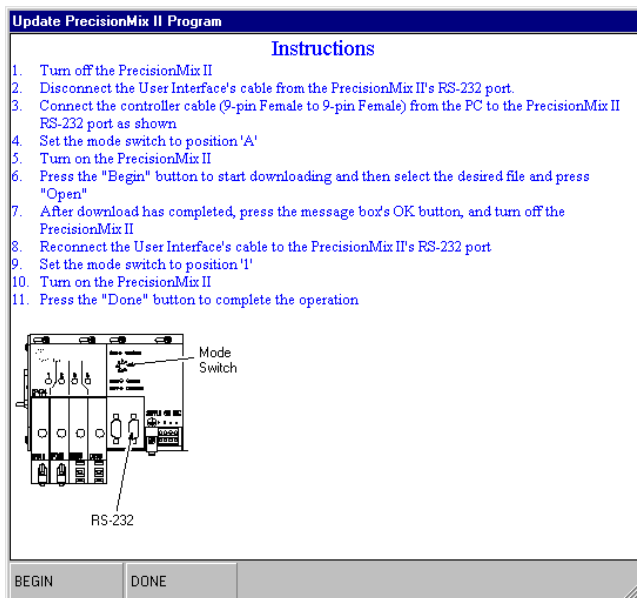

Fig. 13.35
11. Press the DONE button to close the Instructions window. See Fig. 13.35.